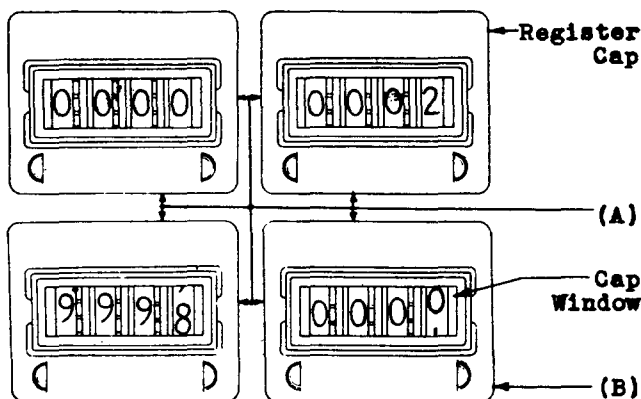

Fig. 6 – Register Mounting and Alignment
2.07 Register Mounting and Alignment — Fig. 6(A)
2.08 Register Cap Fit — Fig. 6(B) — The register cap shall be tight with not more than perceptible side play but shall be readily removable with the No. 90 cap remover.